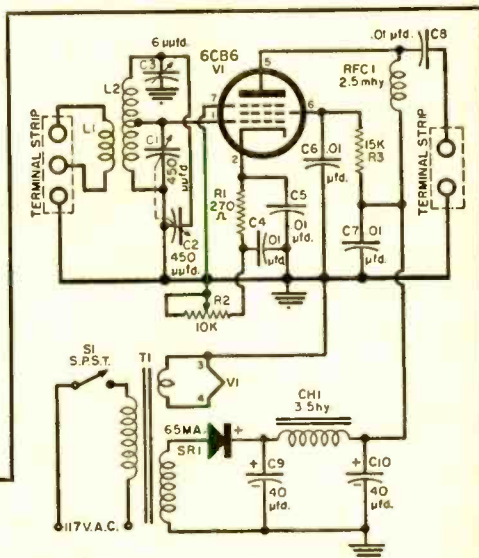

Fig. 1. Schematic diagram and parts list for preselector and power supply.
All r.f. ground connections should be made with short direct leads to the tube socket shield, with the exception of that of the fine tuning capacitor which is automatically made to the chassis when the capacitor is mounted. Since the maximum capacitance of this unit is small compared to the sum of all other capacitances in the circuit, no serious feedback results from this connection. Connect the tube socket shield to chassis ground at the lug under the socket mounting screw. The heavy line in Fig. 1 denotes the socket shield.
Wiring is quite simple, as can be seen from an inspection of Fig. 1. All components can be easily identified in the below-chassis photo and the pictorial diagram. Three two-lug tie points are used, one under each of the two screws securing the power transformer, and one near mid-chassis between the tube socket and the three screws holding the tuning capacitor. None of the bypass capacitors (*C*₄, *C*₅, *C*₆, *C*₇) should be allowed to extend above the tube socket shield. As screen resistor *R*₃ is between the chassis and the screen bypass capacitor, it is not visible in the photos. The two heater leads are twisted
Shown in Fig. 1(A) is a typical crystal tuner. A ferrite-adjusted broadcast coil (*Miller 6300*) is soldered directly to the lugs of the tuning capacitor. The crystal diode is soldered to one lug, and the headphone return lead to the other.
Above, broadcast crystal tuner built around an MS-215 tuning capacitor. Right, a subminiature absorption wavemeter or wave trap. (See Fig. 1, below, for wiring details.)